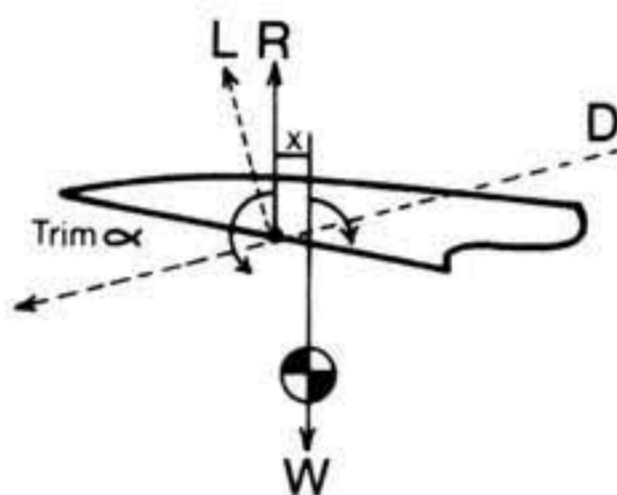

Fig. 12 Instable glider in precarious trim.
6.3 In an unstable glider the detailed picture is somewhat different. If the shape of the wing creates a net negative pitching moment, the CG will have to be aft of the AC to trim it out to zero, by let us say x in this instance. Fig.12 shows this precariously balanced system.